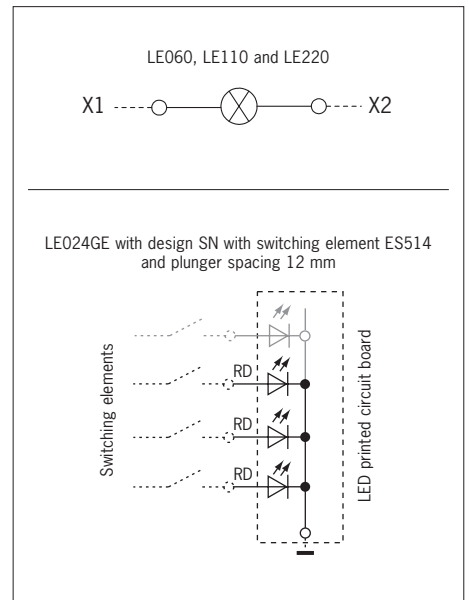

Figure 5: LED connection
On the use of indicators, the voltage range printed on the indicator housing must be observed (connection see Figure 5).
- ▶ For switch type SN in LED version with switching element ES514 and plunger spacing 12 mm the following applies: Make LED connections to the switching element (connection see Figure 5)